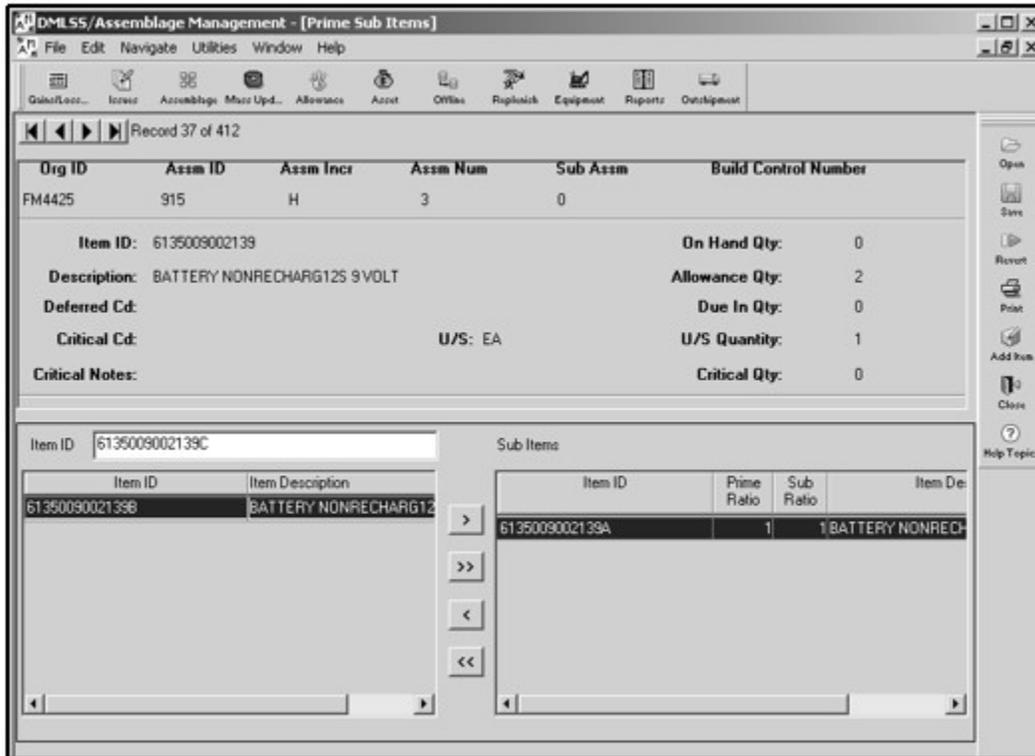

Figure 10. Prime Sub Items Window
(3) Select “Prime/Sub Items” from the navigate menu or select the “Prime/Sub Item” button located on the horizontal toolbar to establish, revise, or delete prime/sub relationships. Prime/sub relationships are applied at the Organization and Assembly ID level. Therefore, if the same relationship exists for other assemblages within the organization, the prime/sub relationship must be applied to each assemblage.
(4) In the criteria search window, select the ORG, assemblage, and Item ID in which the ensuing prime/sub relationship applies. Select “Search” to access the Prime/Sub Items window (Figure 10).